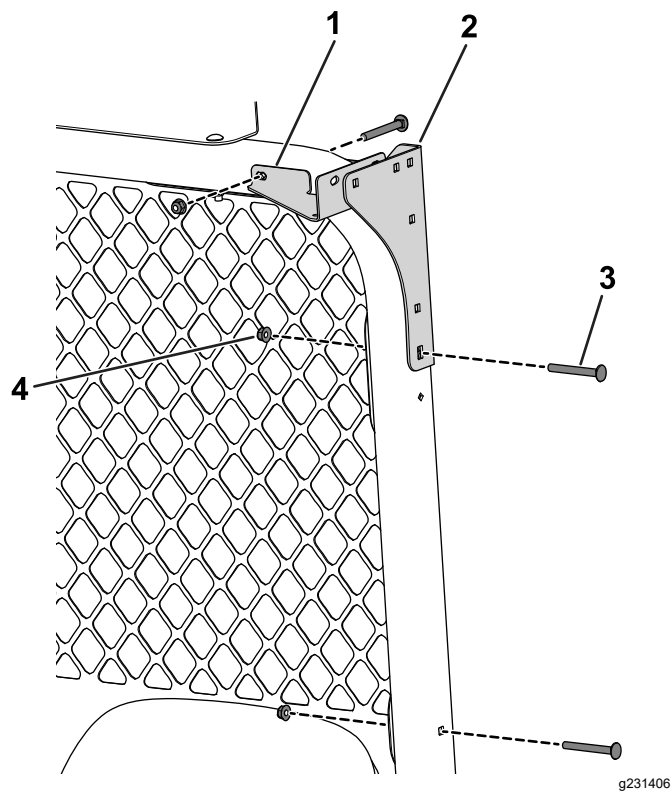

Figure 34
6. Use 4 carriage bolts (5/16 x 2-3/4 inches) and 4 nuts (5/16 inch) to secure the rear mount brackets and the rear corner gussets to the roll bar (Figure 34).
7. Install 2 carriage bolts (5/16 x 2-3/4 inches) and 2 nuts (5/16 inch) to secure the rear screen to the roll bar (Figure 34)